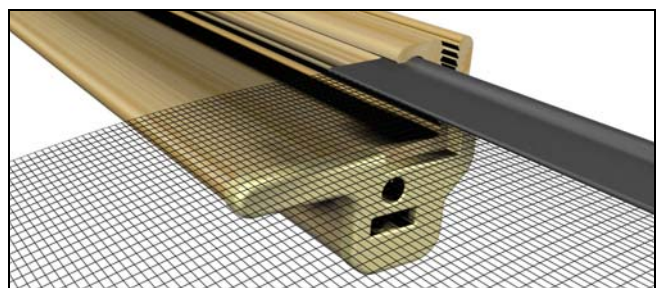

Figure 3
8. Slide the new pull bar onto the screen mesh. See figure 3.